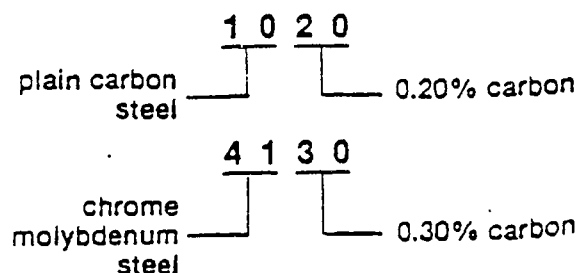

Fig. 130-1. SAE and AISI code numbers.
Two examples of the SAE/AISI numbering system are explained in Fig. 130-1. The series designations and the types of steel which they designate are summarized in Table 130-1.
- Look at Figure 130-1. In the code number 1020, what do the third and fourth digits tell you? .20% carbon